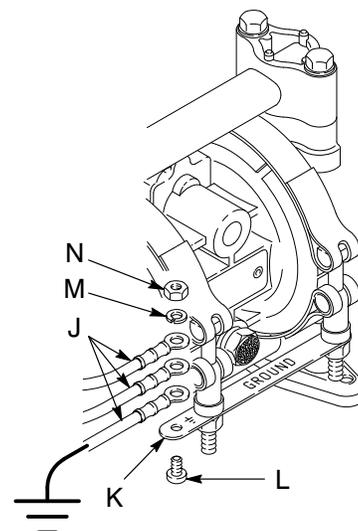
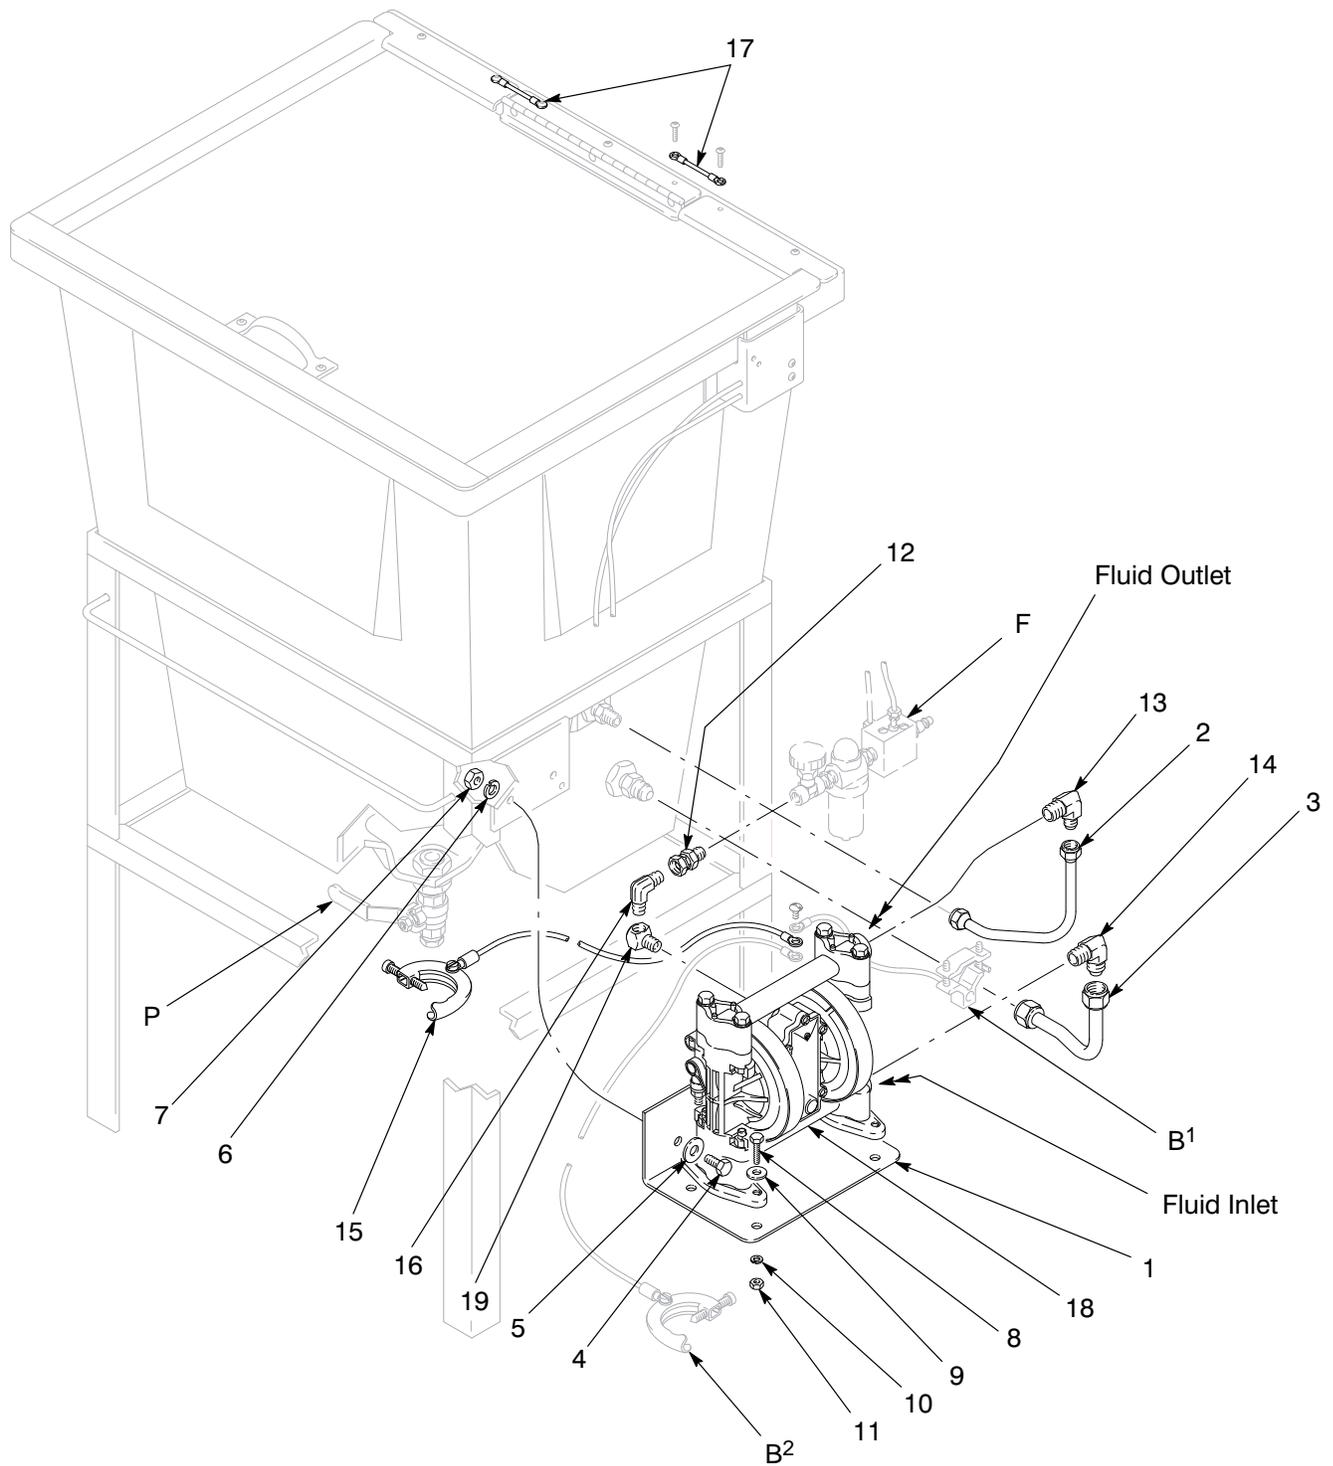

Fig. 3
Fig. 4
NOTE: Refer to Fig. 4 to assemble. Only the numbered parts are included with the kit.
1. Mount the bracket (1) securely to the gun washer with two 3/8" bolts, washers, lock washers and nuts (4, 5, 6, & 7).
2. Install the 3/8" npt end of the elbow (13) into the pump fluid outlet, using pipe thread tape.
3. Install the 3/8" npt end of the elbow (14) into the pump fluid inlet. Position the elbows (13, 14) parallel to the pump body as shown in Fig. 4. Tighten them securely, leaving 3/8" of thread exposed.
4. Install the swivel fitting (12) into the air valve, lubricator, and manifold assembly (F), using pipe thread tape. Tighten it securely.
5. Install the elbow (19) into the pump air inlet, using pipe thread tape. Position the threaded hole in the elbow to face directly upward as shown. Tighten it securely.
6. Install the adapter (16) into the elbow (19) using pipe thread tape. Position the adapter to face the fluid inlet/outlet side of the pump as shown. Tighten it securely.
7. Assemble the swivel fitting (12), air valve, lubricator, and manifold assembly (F) to the adapter (16), then hand tighten.
8. Connect all three grounding wires (J) to the pump grounding strap (K) as shown in Fig. 3. Use the nuts, washers, and screws (L, M, N) retained from the Mini-Flo removal.
9. Mount the Husky pump (18) on the bracket (1) with the air exhaust facing the gun washer. Use the four 1/4" bolts, washers, lock washers, and nuts (8, 9, 10, & 11) to secure the pump.
10. Position the air valve, lubricator and manifold assembly (F) parallel to the gun washer tank and pump and tighten the swivel fitting (12).
11. Connect the outlet fluid tube (2) between the gun washer fluid inlet and the pump outlet elbow (13). Tighten until snug; do not over tighten.
12. Connect the inlet fluid tube (3) between the gun washer fluid outlet and the pump inlet elbow (14). Tighten until snug; do not over tighten.
13. Remove the screws on the lid hinge as shown in Fig. 4. Install the two jumpers (17).
* See Fig. 3 or 5 for a detail of the pump grounding strap.